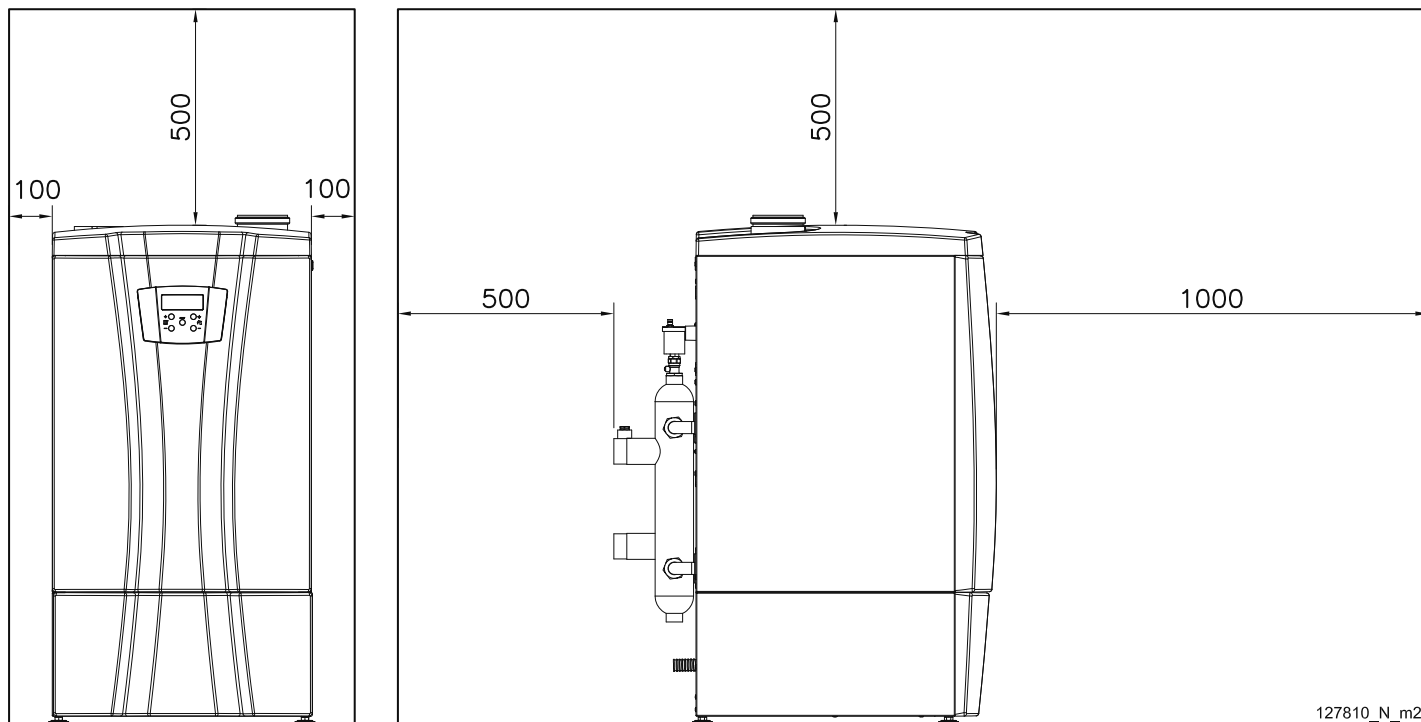
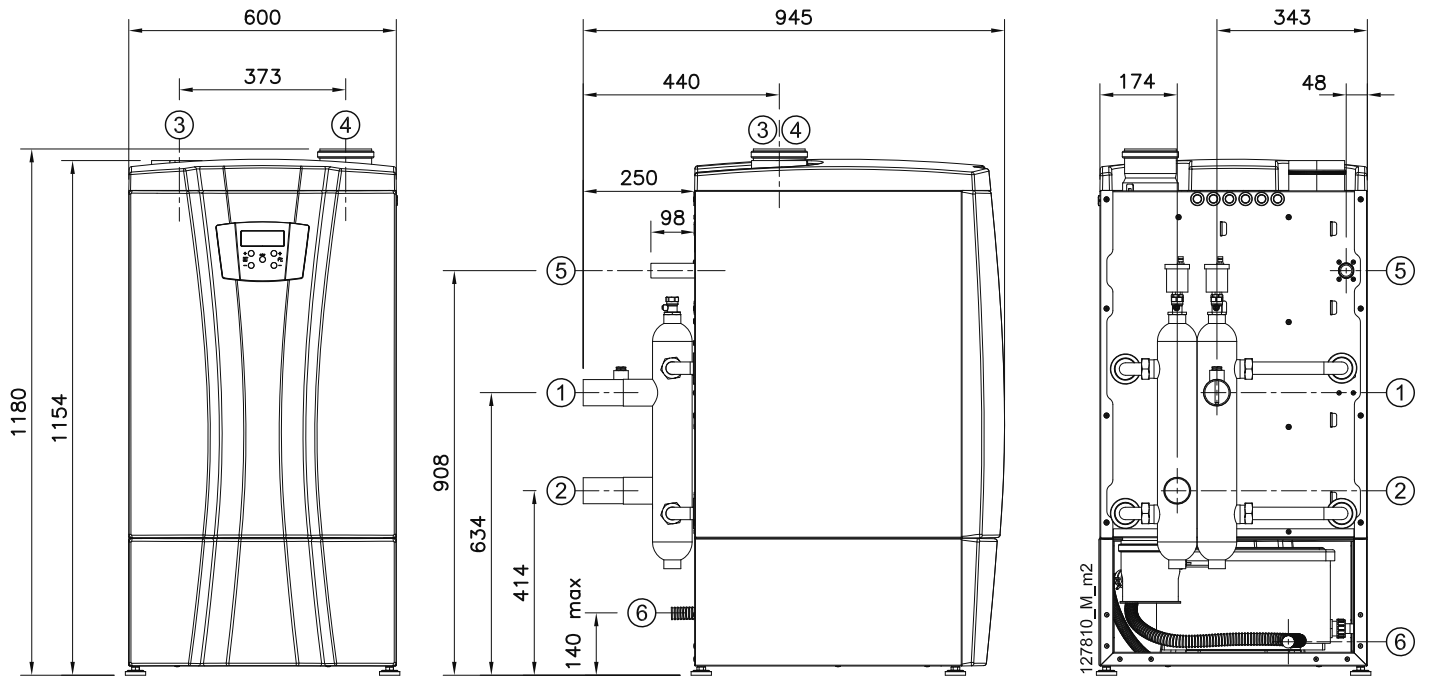

Figure 7-1 - Minimum distances to respect for 70T and 140T models
Figure 8-1 - Fitting dimensions and centre distances for 70T and 140T models (References in figure 8-3)
- ☞ The minimum distances shown in figures 7-1 and 7-2 must be maintained for installation and future maintenance.
Free space must be left around the appliance both for installation and maintenance, as illustrated in figures 7-1 and 7-2. Figures 8-1, 8-2, 9-1 and 9-2 show the appliance connection dimensions and centre distances.
To identify the position of the fittings, see figures 8-1 and 8-2.